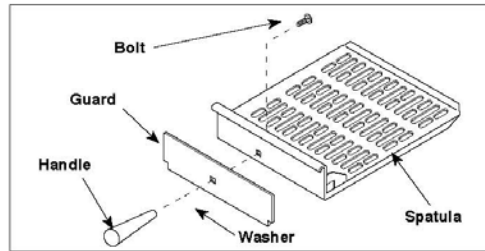

Figure 1. Assembling Handle—MS-150/250 Only
6. **MS-150/250 Models:** Assemble the handle, handle guard and mounting bolt to the spatula as shown in Figure 1.